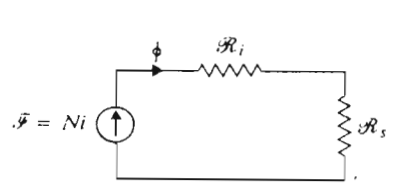

Fig. 1.33 Equivalent magnetic circuit for the system of Fig. 1.32.
*Solution* The magnetic system may be represented by the equivalent magnetic circuit of Fig. 1.33, where  $\mathcal{R}_i$  is the reluctance of the cast-iron part and  $\mathcal{R}_s$  that of the cast-steel part.